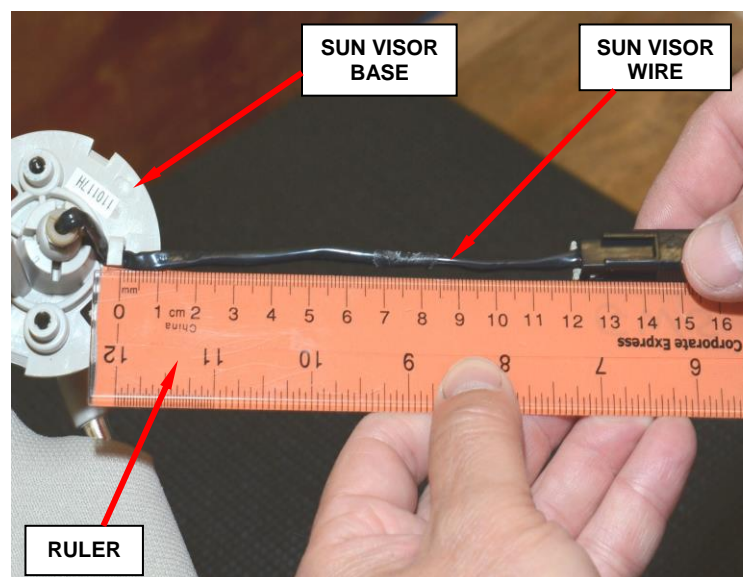

Figure 11 – Measure Wire Length
28. Measure the length of the sun visor wire to determine the correct wire routing (Figure 11).